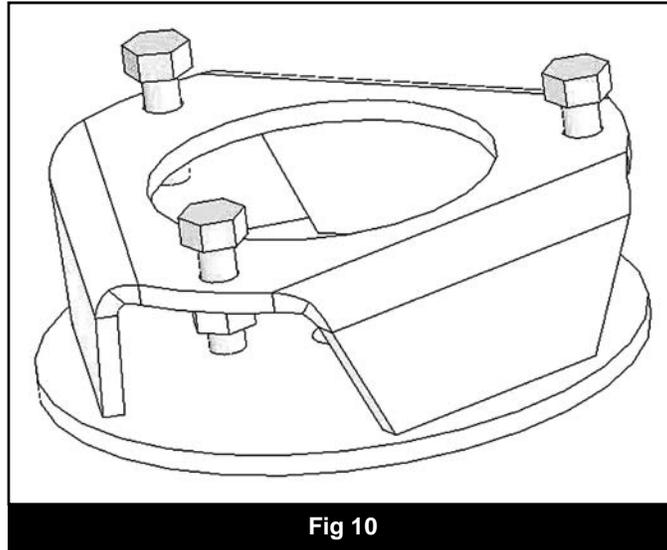

Fig 10
33. Apply loctite to the threads of three 5/16" x 1" bolts (Bolt pack #528) and thread them into the provided coil spring spacer so that 1/4" of thread is still showing. (Fig. 10)